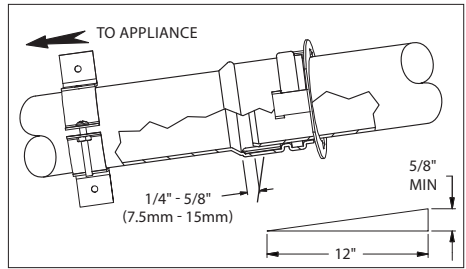

Figure 6
Refer to the appliance manufacturer's installation instructions for requirements of condensate drainage. Ensure proper system slope for drainage. (Fig.6)
- The slope of the vent pipe must be at least 3° (5/8" per ft, 50mm per meter) back to the appliance. (**Fig.6**)
- The venting system shall be securely supported using suitable hangers. Duravent hardware is recommended; field supplied support hardware suitable to the AHJ is acceptable, hardware must not deform or damage the vent. (**Fig. 6 and 7**) Make sure the load of the vent system is not supported by the appliance.
PP Pipe sections must be disengaged 1/4"-5/8" per joint (to allow for expansion) and sloped 3°(5/8"per ft) back to the appliance per Fig.6 for proper condensate flow.